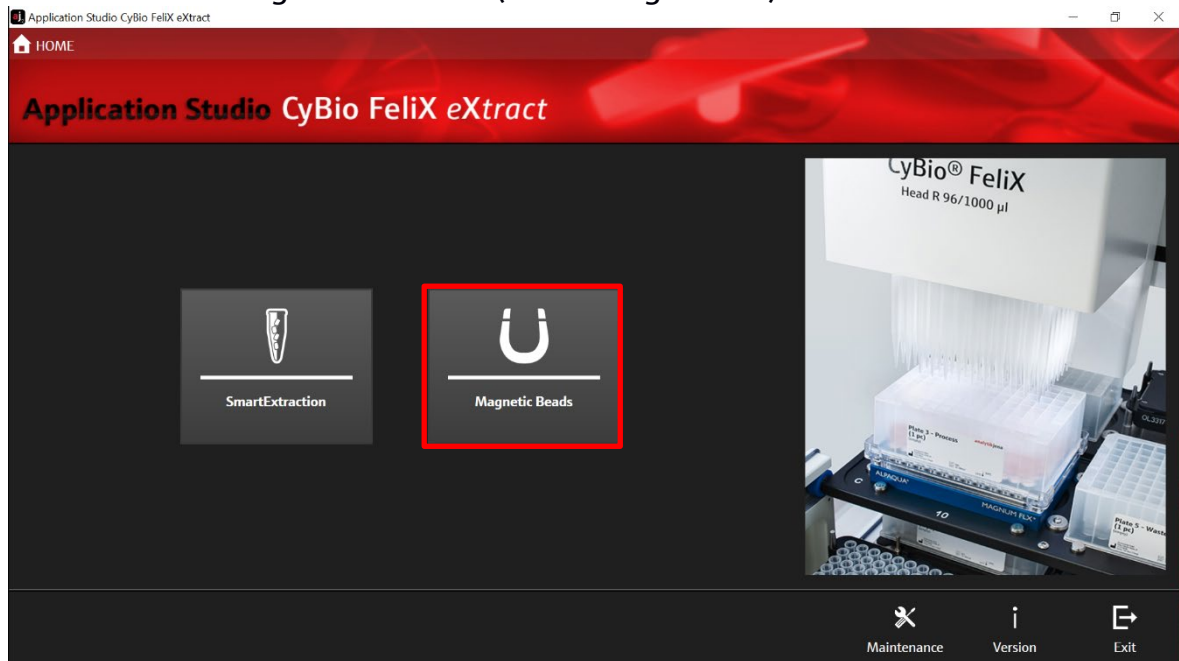

Figure 28: Homescreen of the AppStudio FeliX eXtract. Selection of Magnetic Beads
3. Select "Magnetic Beads" (→ see Figure 28).